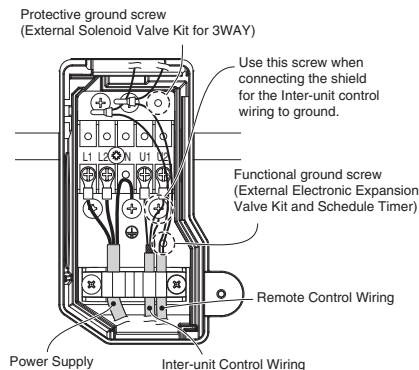

Fig. 3-51
- (4) Route the inter-unit wiring from the back of the indoor unit and pull it toward the front for connection. (Fig. 3-51)
- (5) Connect the inter-unit wiring to the corresponding terminals on the terminal plate (Fig. 3-51) while referring to the wiring diagram.